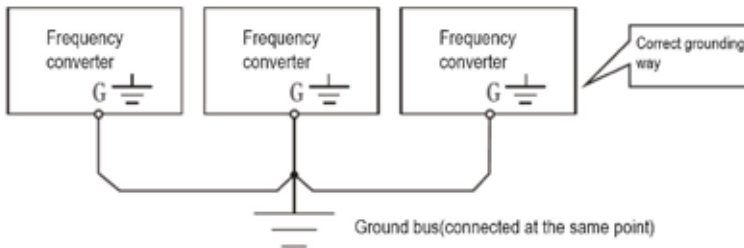

Figure 1-1
- For the purpose of safety, the ground terminal of the inverter must be reliably grounded. In order to avoid the influence of grounding common impedance interference, multiple inverters should be grounded at one point, as shown in Figure 1-1.